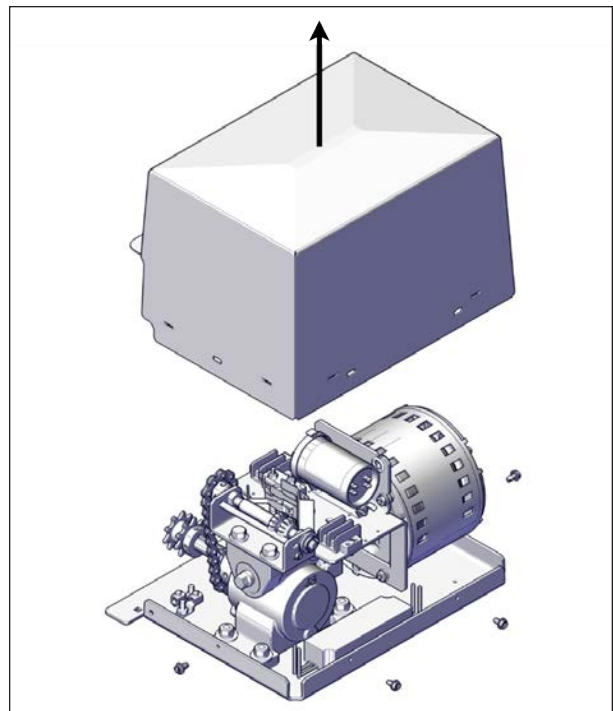

FIGURE 82: OPERATOR COVER REMOVAL
2. Remove the screws at the bottom of the operator cover (4) and remove the cover as shown in Figure 82.